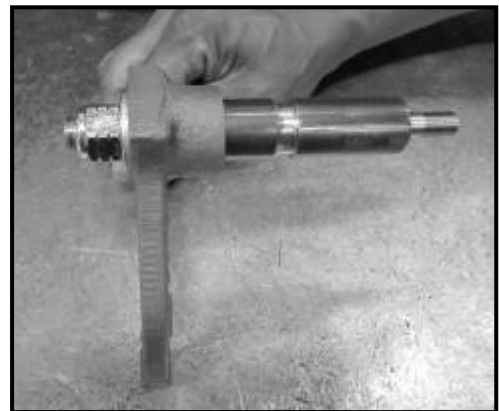

Figure 59
8. Start creating the shift-fork assembly by sliding shift-fork onto the shorter side of the shifter-shaft. Place a flat washer on top of the fork and screw in a locknut using Loctite 272 or equal. See **Figure 59**.